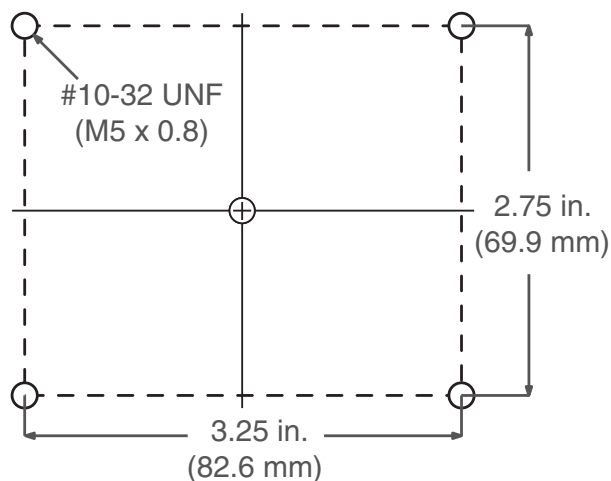

Fig. 64: CGM Mounting Holes
4. Drill the mounting holes using the mounting hole dimensions shown in Fig. 64.